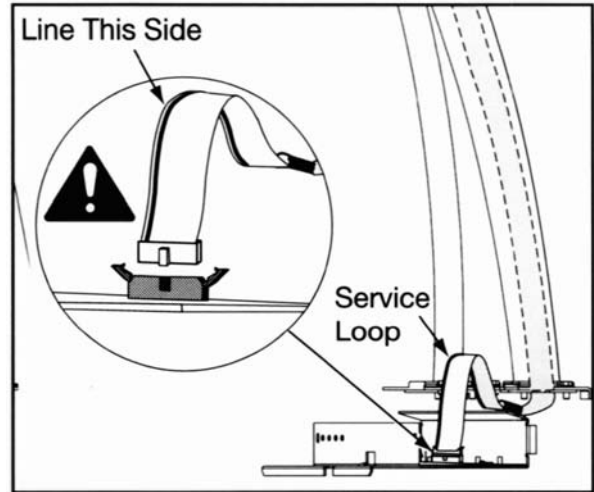

Figure 13
- D. Arrange the display cable in a service loop. See Figure 13.